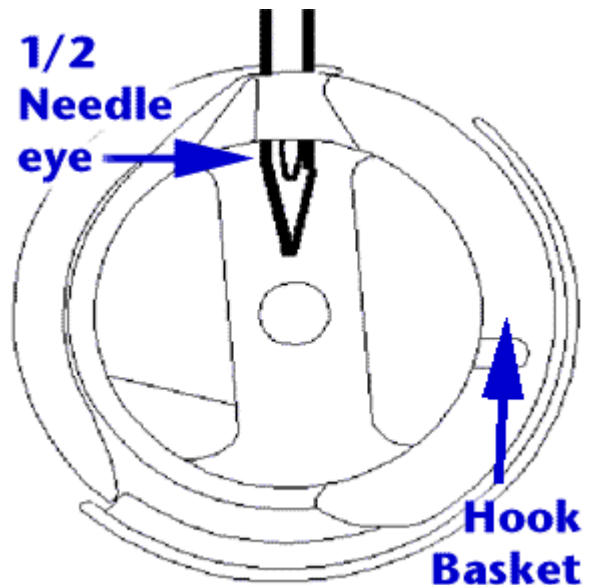

Fig. 1: Needle in Hook basket
5. Before making any adjustments, see if lower half of needle eye is visible inside hook basket (what the bobbin case snaps into). See figure 1.